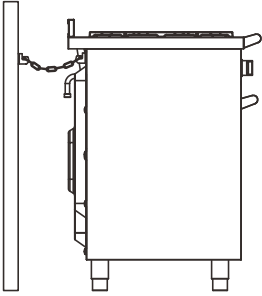

Figure 1
- 1.Refer to figure 1, drill 3 hole on the wall in $\Phi 10\text{mm}$ diameter, with depth around 55mm